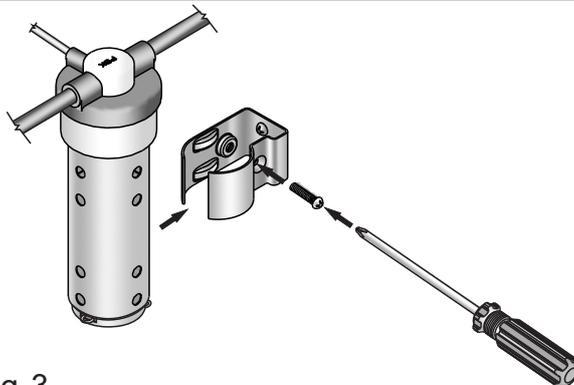

Fig.3
- b. Follow fig.3 to insert the Bump Switch into clip at the position of 2/3 body length. Then fasten screw to fix Pump Switch.